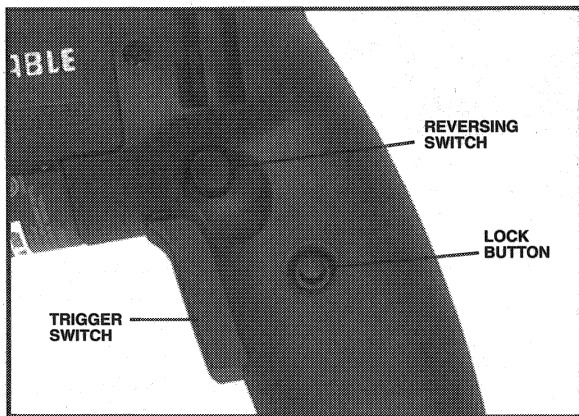

Fig. 3
2. Squeeze TRIGGER SWITCH (Fig. 3) to start motor. Release trigger to stop motor.
3. LOCK BUTTON – A lock button (Fig. 3) is provided to keep motor running without holding the trigger switch ON.
4. REVERSING SWITCH – The reversing switch is located as indicated in Fig. 3. These models will operate in either the forward direction (clockwise rotation) for drilling holes, or the reverse direction (counterclockwise rotation) for releasing jammed drill bits. For counterclockwise rotation, stop the motor by releasing the trigger switch and push the reversing switch toward the right side of the drill, or in the opposite direction for clockwise rotation.